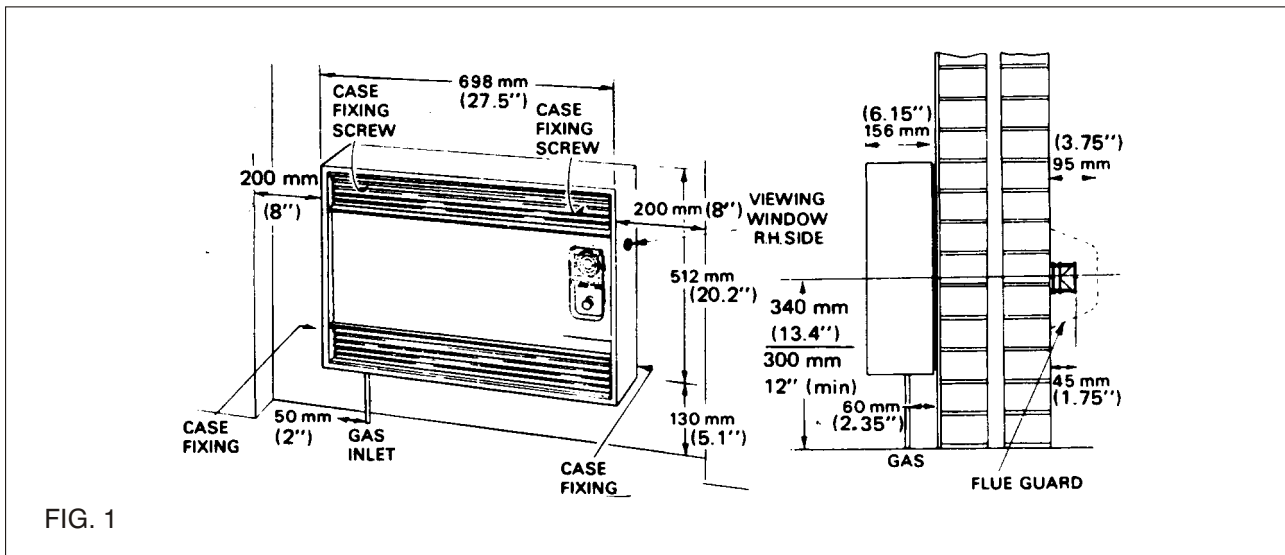

FIG. 1
1. Inside the building the heater must be fixed to an external wall, observing the clearance distances in Fig. 1 so that sufficient access is left for servicing. Note that if the heater is sited too high up the wall, poor heat distribution will result.